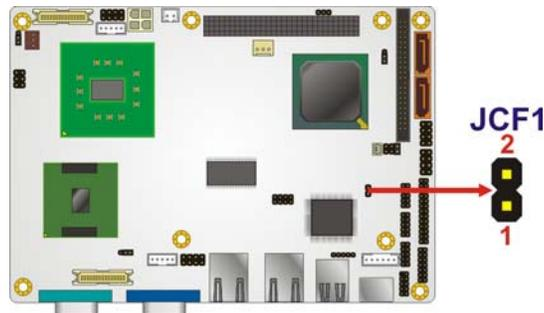

Figure 4-17: CF Card Setup Jumper Location
- Jumper Location:** See **Figure 4-17**
The CF Card Setup jumper location is shown in **Figure 4-17**.